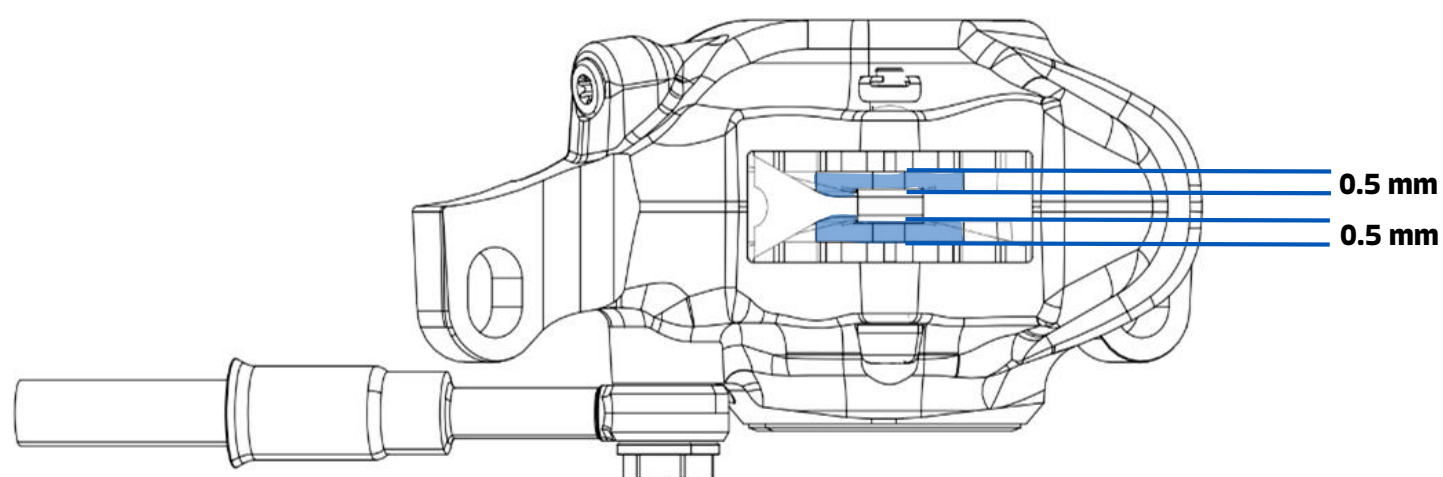

Fig. 7
- Check the brake pads and discs. Replace the pads when there is less than 0.5 mm left (Figure 7) and the discs when there is less than 2.0 mm left.